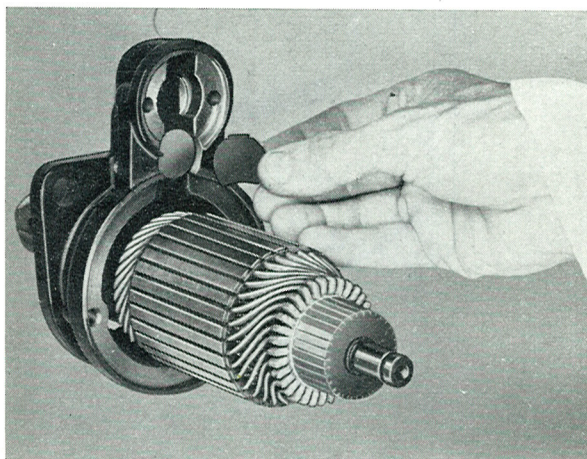

Fig. 3-37. Removing the sealing washer
9. Remove the rubber washer and metal washer, see Fig. 3-37.